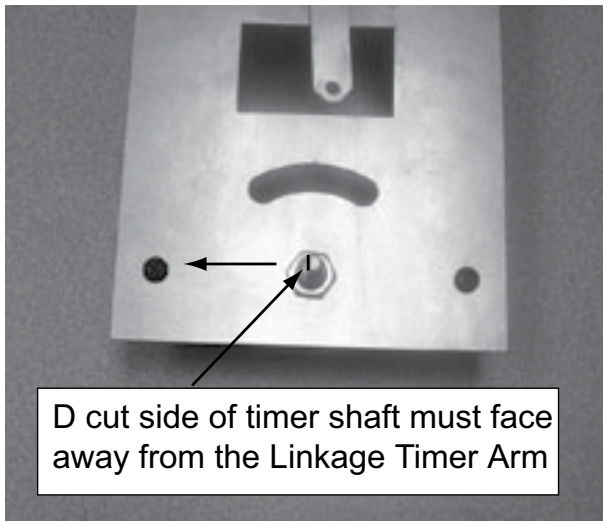

Figure 4.21
2. Install new timer using same 2 screws. It is very important that the D cut side of the timer shaft is facing the opposite side of the linkage timer arm. Figure 4.21